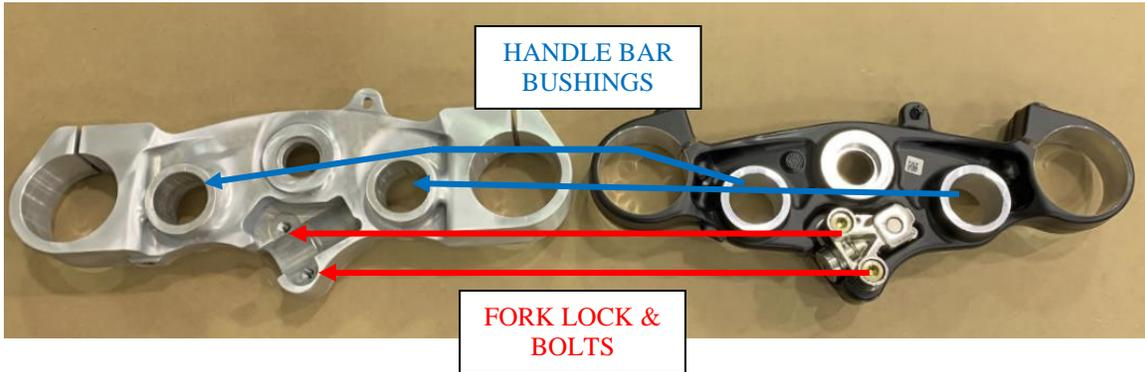

**Figure 18: Remove the triple tree clamps.**
22. Remove the retaining nut on the upper triple tree, then remove the upper triple tree. Remove the adjustment nut from under the upper triple tree and slide the lower tree and stem out the bottom. The adjustment nut is a spanner wrench style nut, but should have very little torque on it. You should be able to remove it with a screw driver and a tap from a hammer if you do not have the proper wrench. See Figure 18.